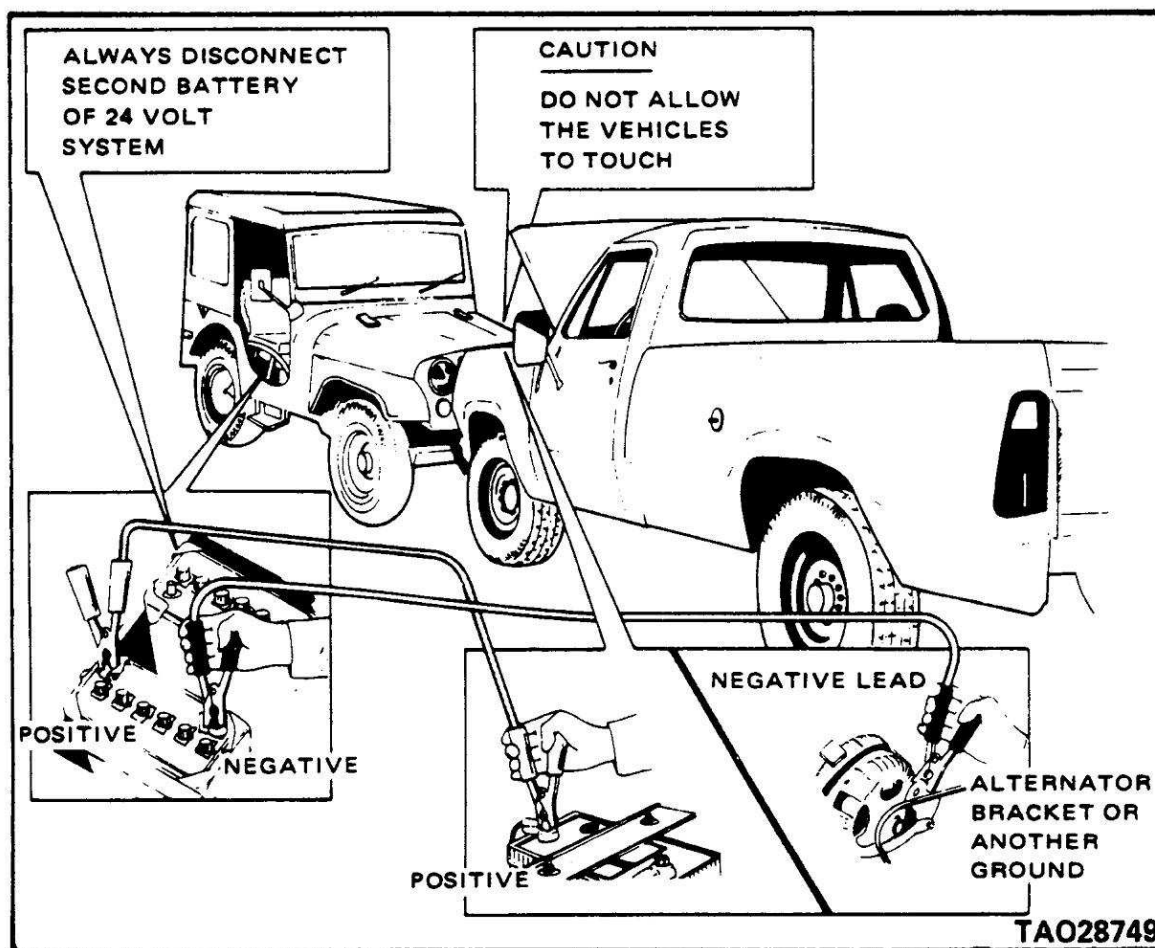

Figure 2-41. Jump Starting the Truck.
- (5) Install the battery hold-down rods, plate, and nuts.
- (6) Connect the positive battery cable.
- (7) Connect the negative battery cable.
h. Jump Starting the Truck. The procedure for jump starting the truck is shown in figure 2-41.
These trucks have a 12V electrical system. Since most tactical vehicles have 24V systems, you must use the jumper connections shown in figure 2-41 for jump starting. Direct jumping from the 24V systems will damage the charging system; *always disconnect one battery of a 24V system* before attempting to jump start this truck.